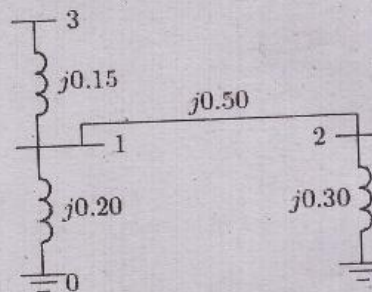

Fig. 1
- (b) Using the method of building algorithm find the bus impedance matrix for the network shown in figure 1.